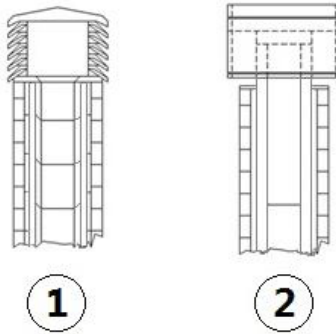

Fig. 5 - Anti-wind chimney pots
- We recommend using an anti-wind chimney pot, see **Fig. 5 page 8**.
- External chimney flue entirely made up of insulated stainless steel pipes, i.e. with double wall of minimum Ø150 mm: all must be firmly attached to the wall. For chimney against wind effects please (see Fig. 5 page 8).